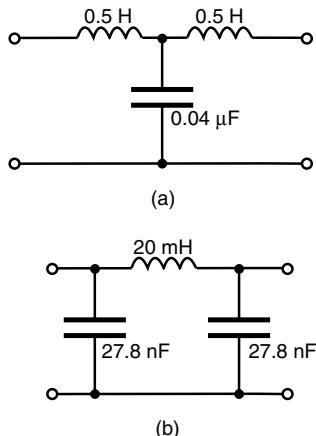

Figure 17.11
1. Determine the cut-off frequency and the nominal impedance of each of the low-pass filter sections shown in Figure 17.11.